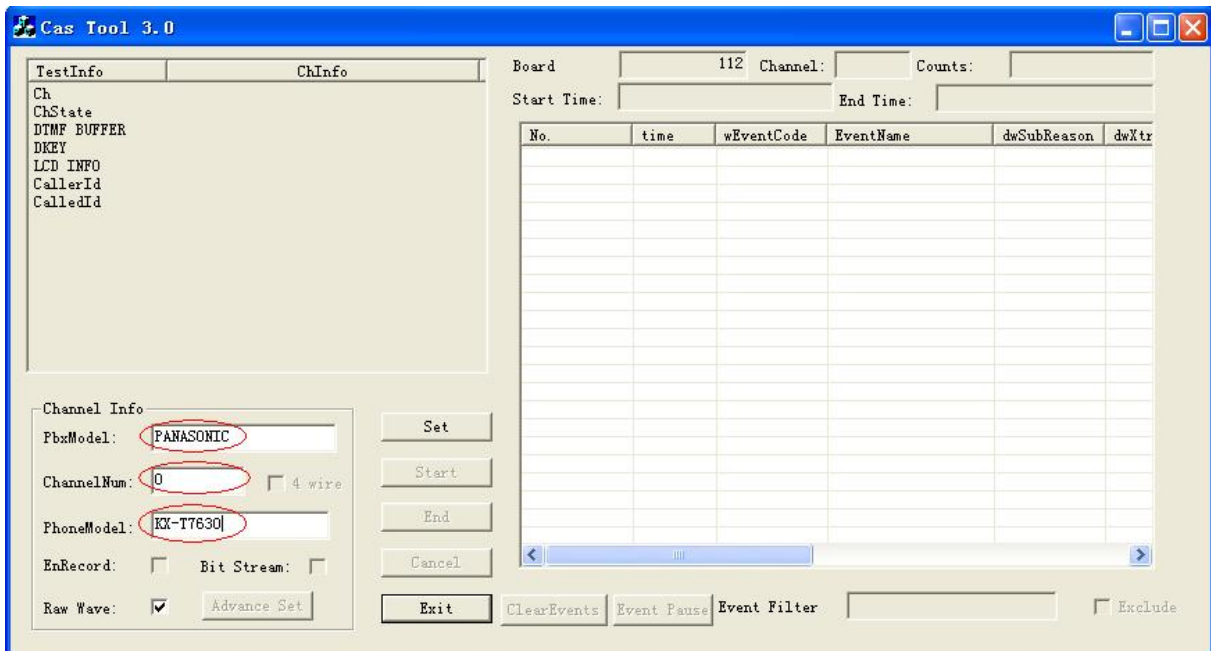

Figure 2-22
Step 2: Fill in the PBX and phone models and the specified channel number respectively for the items 'PbxModel', 'PhoneModel' and 'ChannelNum' as shown in Figure 2-22. Such information will be saved to the end of the recorded data file.